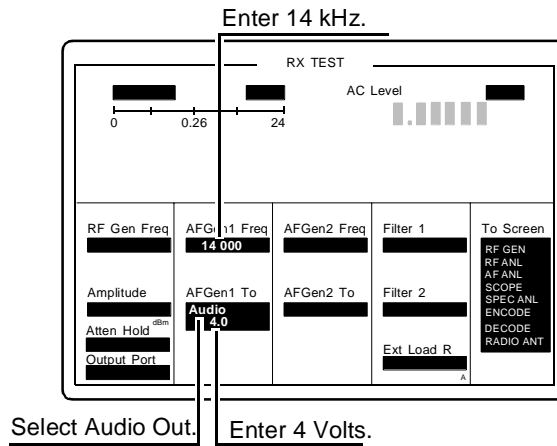

Figure 56 Setting up the RX TEST Screen for the EVM Performance Test
Step 1. Setup the RX TEST screen (see figure 56).